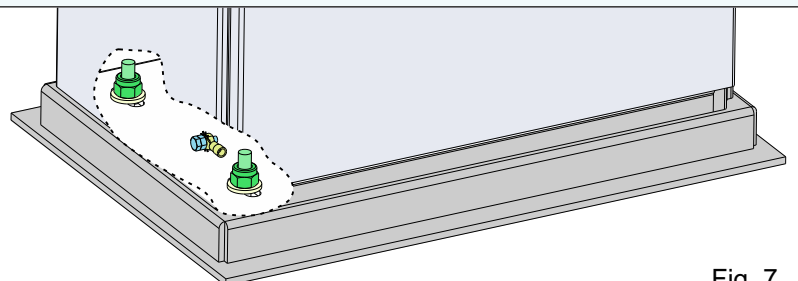

Fig. 7
**5.1.** Secure the gearmotor to the foundation plate using the supplied nuts and washers - Fig. 7, then adjust the lateral position and height to comply with the quotas mentioned in Fig. 5